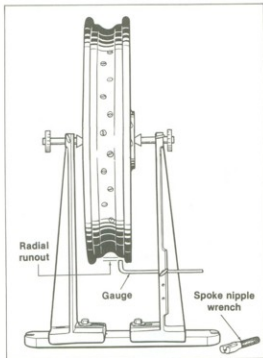

Figure 2-29. Truing Rim Radially
- See Figure 2-29. After rim has been centered sideways it must be checked and trued radially. Adjust truing stand gauge to the rim's tire bead seat as shown. The rim should be trued within 1/32 in.